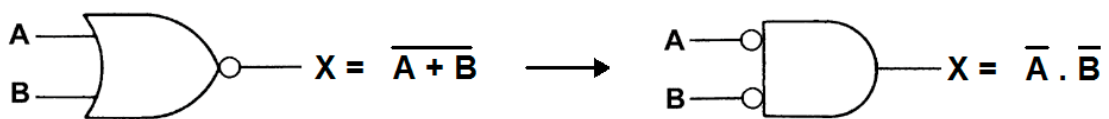

Fig. 1- DeMorgan's 1st Law
- 4) Now connect two NOT gates to the inputs of a AND gate as shown in fig.1